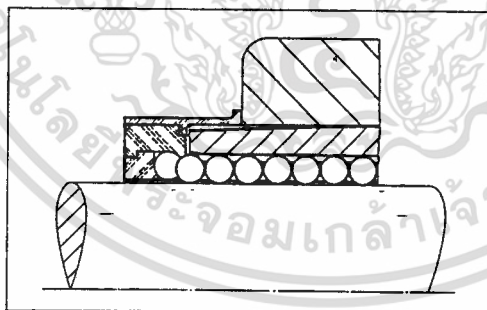

Figure 21: Retention by means of holding ring for applications with length of bore $< B_1$. Please send for Table 1330/1.
- holding rings (Figures 21 and 22)